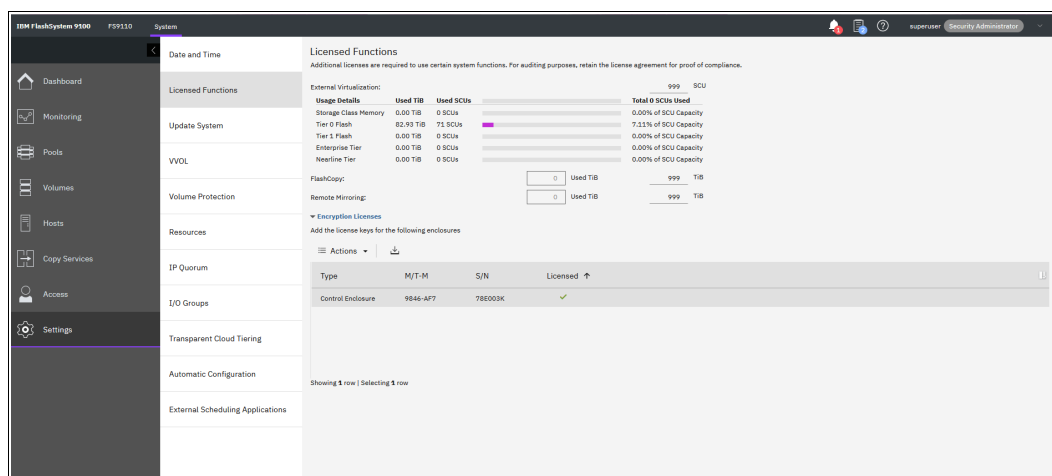

Figure 4-101 Licensing window
2. In the left column, click **Licensed Functions**. The example in Figure 4-101 shows the License Functions window of an IBM FlashSystem 9110 system, which uses differential licensing for External Virtualization.